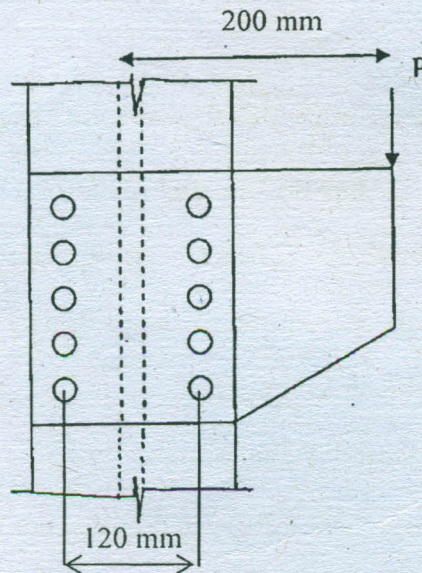

Figure 12 (b)
- (b) Determine the safe load that can be carried by the joint shown in Figure 12.(b). The bolts used are 20 mm diameter of grade 4.6. The thickness of flange of I section is 9.1 mm and that of the plate is 10 mm. The edge distance of bolts is 40 mm and the pitch of bolts is 80 mm.